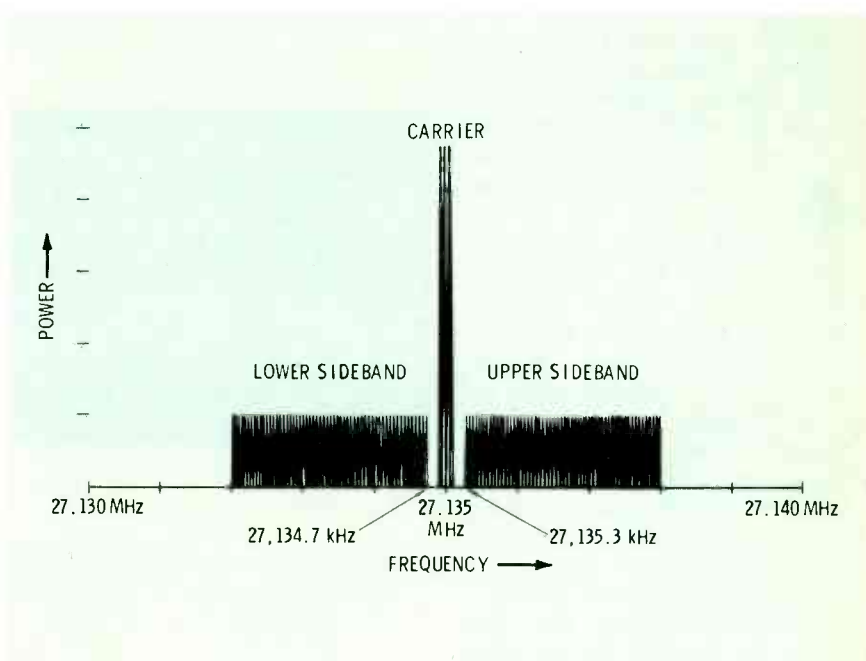

Fig. 1 Spectrum analysis of an AM signal shows the relationships of carrier and the sidebands.
Single-sideband signals come from double-sidebands, so let's look at the spectrum graph of an AM double-sideband signal in Figure 1. The AM signal consists of: (1) a carrier, of the frequency assigned to the transmitter; (2) a lower sideband, which is the difference frequency formed by heterodyning of the RF carrier and the audio modulation; and (3) an upper